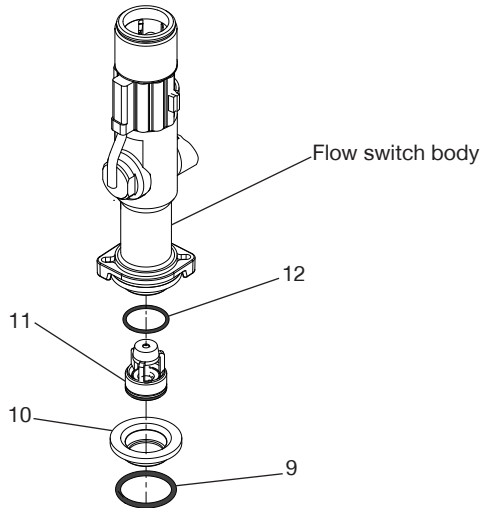

Fig. 34
- Remove 'O'-ring (item 9) from between pump body and flow switch assembly.
- Firmly pull the NRV assembly (items 10/11) from the lower end of the flow switch body assembly (Fig. 34).
- Remove 'O'-ring (item 12).